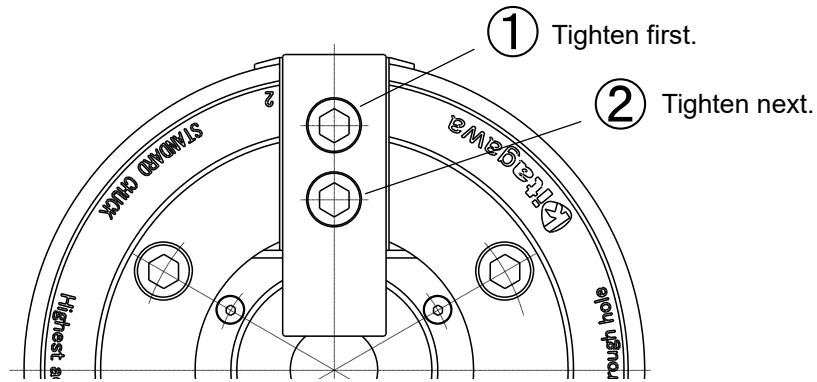

Figure 12-3 Tightening order of the jaw mounting bolts
- To maintain the installation repeatability of the Tnut-Plus for a long period of time, always tighten the jaw mounting bolts from the chuck outside diameter side ① with the specified torque. (See Figure 12-3)